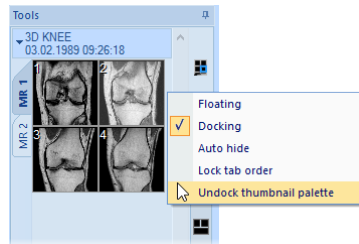

Figure 25 – Undocking thumbnail bar from the tools panel via context menu
- Select the **Undock thumbnail** item in the context menu (see Figure 25).